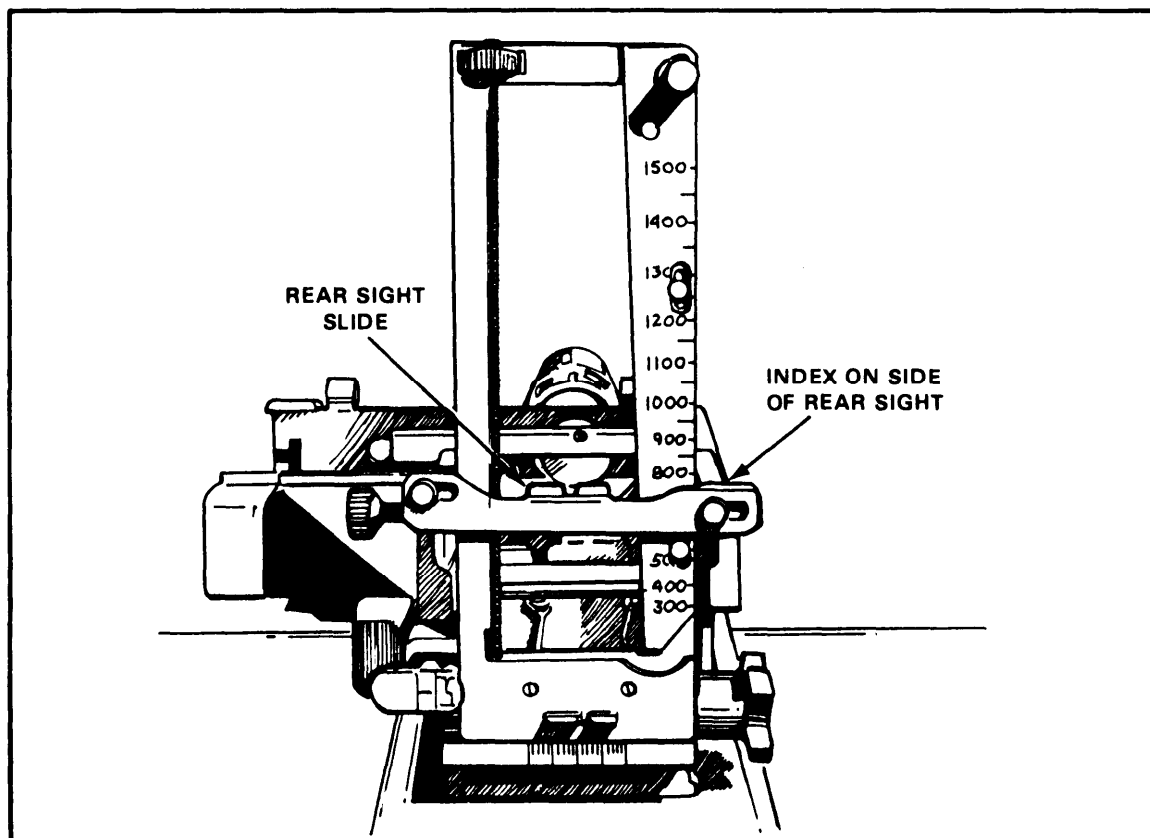

Figure 5-10. Rear sight adjustments.
b. Sight Setting and Laying Exercises. The first exercise teaches the soldier how to set the rear sight quickly and correctly (Figure 5-10). The second builds accuracy and speed in laying the gun on an aiming point, and allows extra practice in sight setting. Explain and show each exercise before beginning instruction.
(1) Sight setting exercise. Explain that, by turning the elevating screw knob, the soldier can make minor adjustments in elevation. All major adjustments will be made with the slide release. Have one soldier act as gunner and another act as coach. Announce the range, for example, EIGHT HUNDRED; have the soldier in the gunner's position repeat the range, set the sight at the announced range, assume the correct gunner's position and announce UP. The soldier acting as coach checks the setting of the slide and points out any errors. Soldiers work in pairs, change roles, and go through the exercise until each one can correctly and rapidly set the sight.